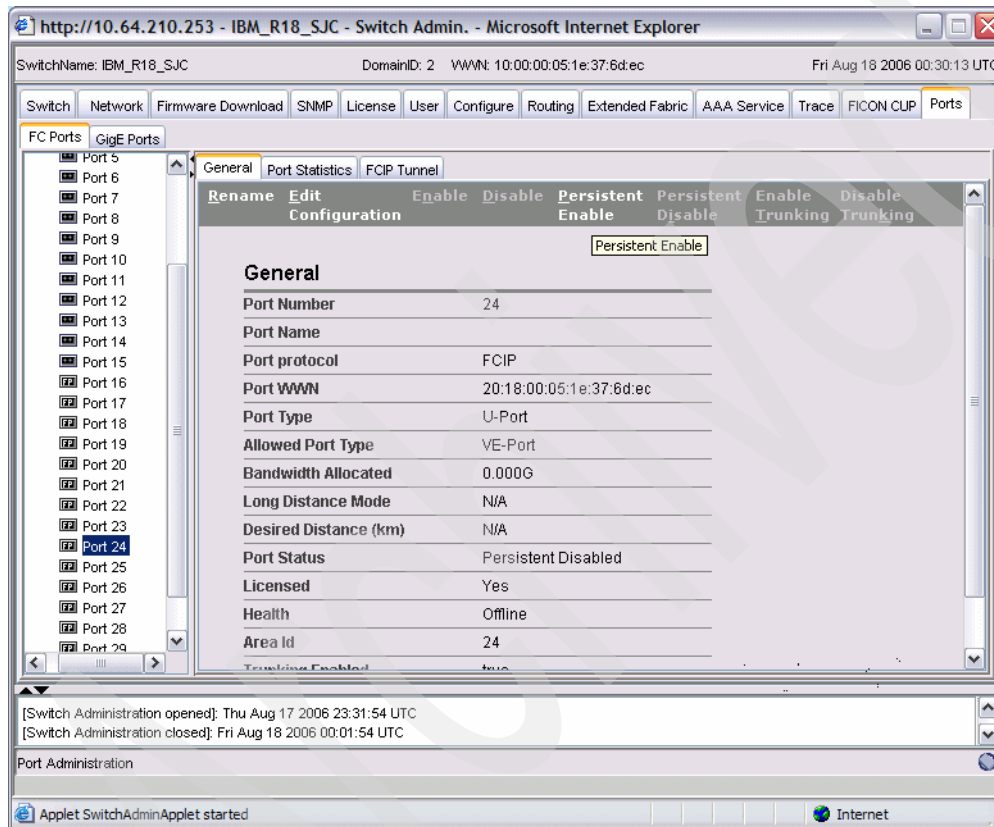

Figure 6-84 Persistent Enable Port 24
1. The first step is to **Persistent Enable** port 24 (Figure 6-84).